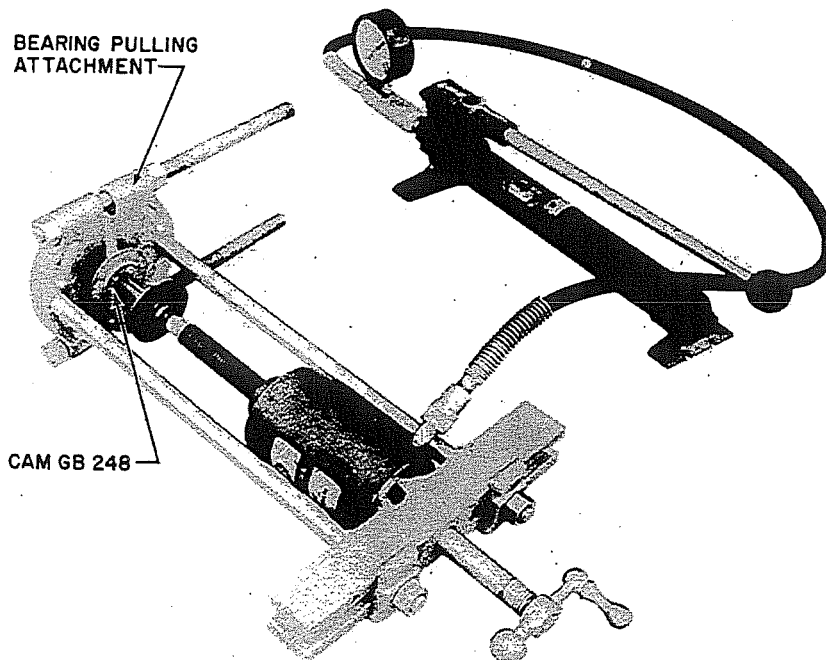

Figure 46. Detector, Installation of Cam GB248
- V. Secure the bearing pulling attachment behind Selector Cam GB248 and install (figure 46). Place Detector Disc GB251 in its proper position on the hub of the selector cam.